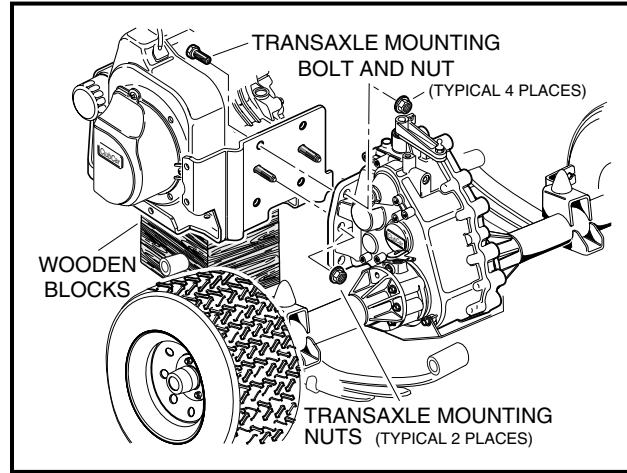

Figure 16-40 Transaxle Mounting
- 6.1. Connect the differential lock cable spring (1) to the differential lock arm on the housing (**Figure 16-40, Page 16-16**).